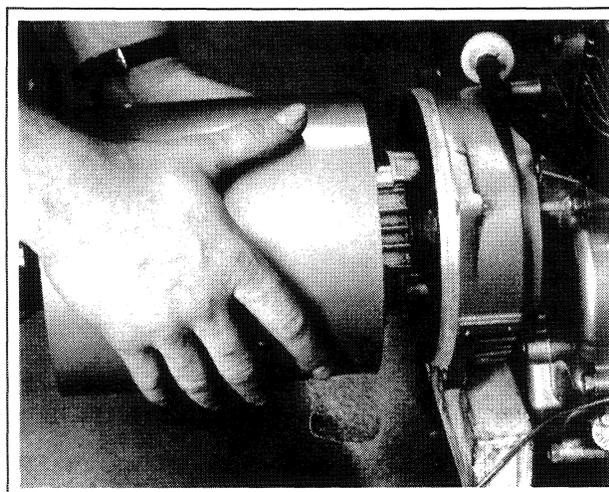

Figure 2-18. Drawing Stator Over Rotor
14. Draw stator over rotor carefully, avoiding damage to rotor or to stator. Figure 2-18.